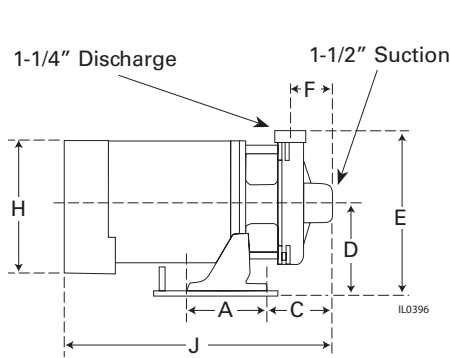

Figure 3 - CJ103 Single Stage Booster Pump
2. The diameter of the suction and discharge pipe should be no smaller than the corresponding tappings of the pump (see Figure 3 & 4). If long runs are encountered larger pipe should be used. Smaller pipe will reduce the capacity of the pump.